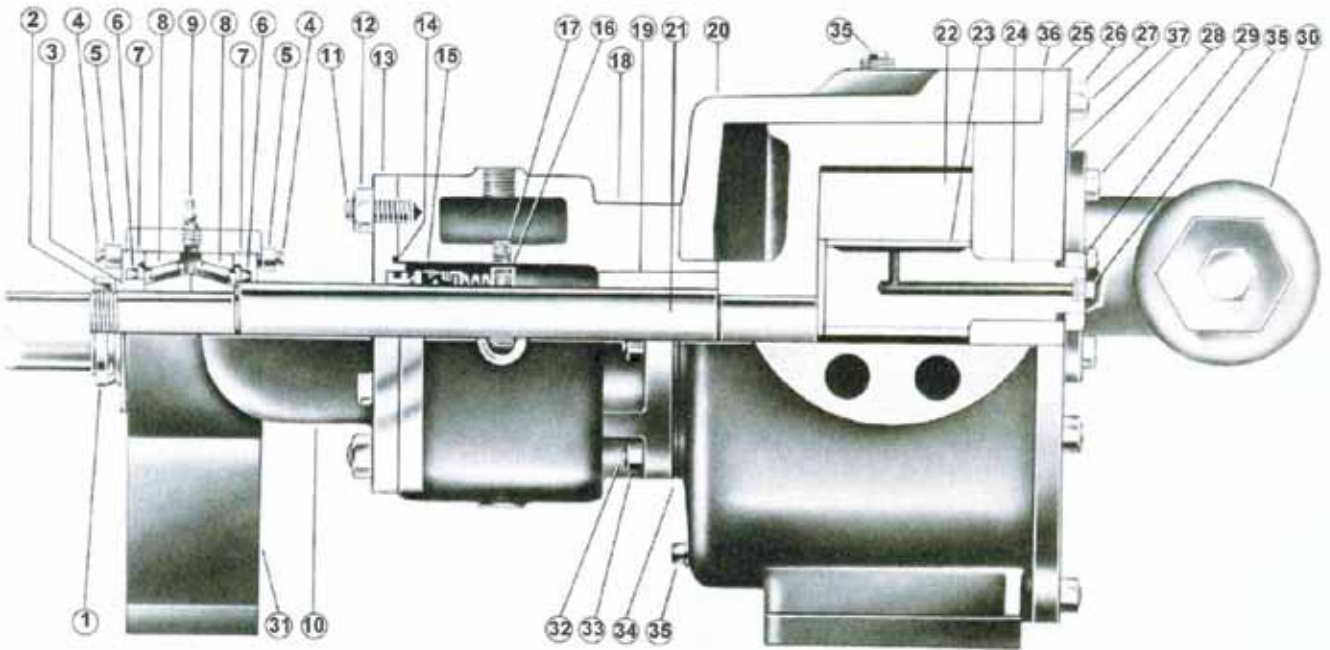

FIGURE 10 DETAILS FOR SECTIONAL VIEW - MODELS N, R AND P4335
on top of the rotor bearing sleeve, remove the 0.25" socket head pipe plug. Through the same hole loosen the 0.313" socket head setscrews which locks the collar to the shaft. Rotate shaft to be sure all setscrews have been loosened. Refer to figure 10, page 8, items 16 and 17, for the pipe plug to remove and the setscrews to be loosened.